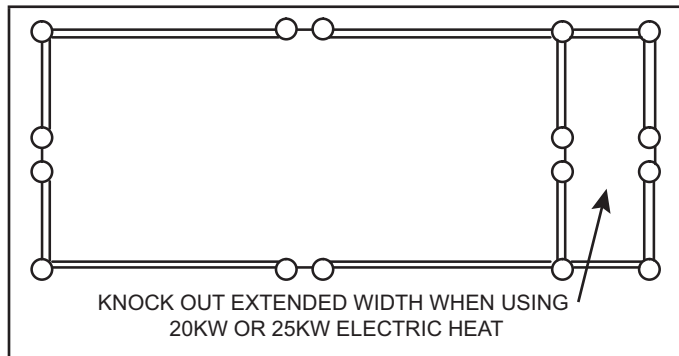

FIGURE 1. Air Handler Electric Heat Knockouts
- 3 - Remove the electric heat knockout from the air handler vestibule panel to accommodate the heater being used. Remove the extended width knockout to allow for installation of 20kW or 25kW heater (see figure 1).